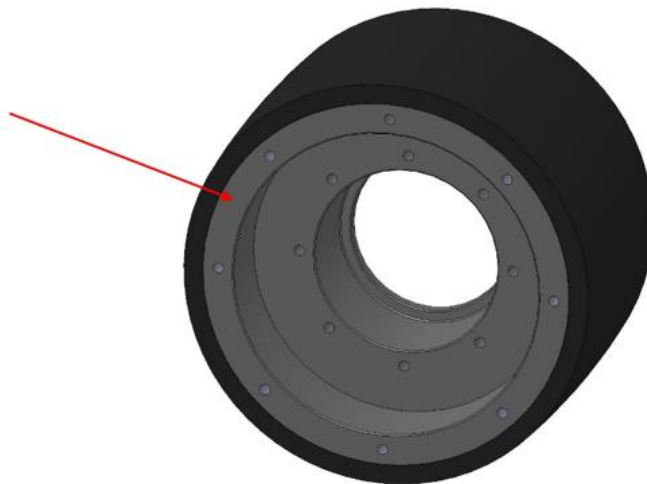

Figure 19: Replace the wheel
6. Remove clutch from the wheel (Figure 19).